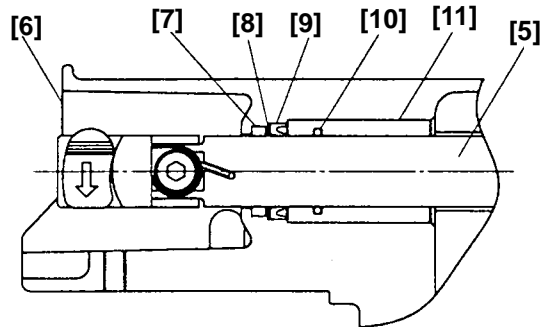

Fig. 15
(3) Mounting Metal (B) [11] to Gear Cover (B) [6] (Fig. 15)